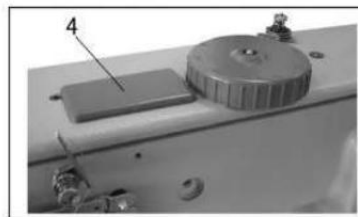

Figure 25
- (1) Remove plastic cover 4 from the upper cover plate (see Figure 25).